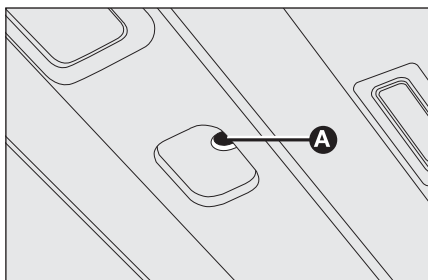

fig. 102
- ☐ introduce the socket in **A-fig. 102** and turn it: